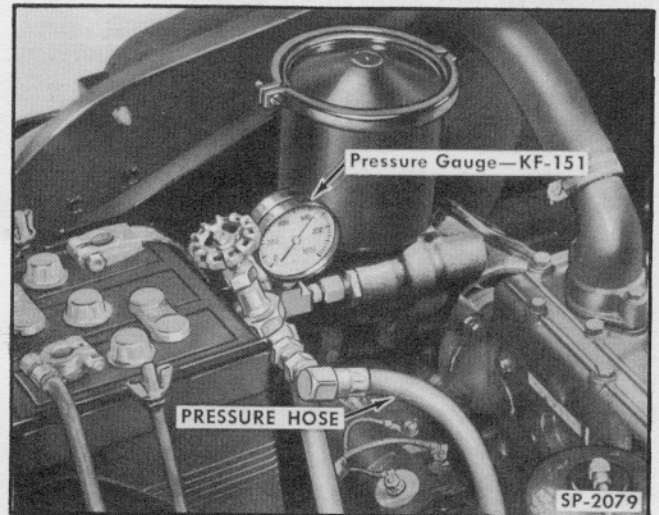

Fig. 12—Pressure Check on Power Steering System
1. With the engine off, install Pressure Gauge KF-151 in the pressure line at the pump as shown in Fig. 12.